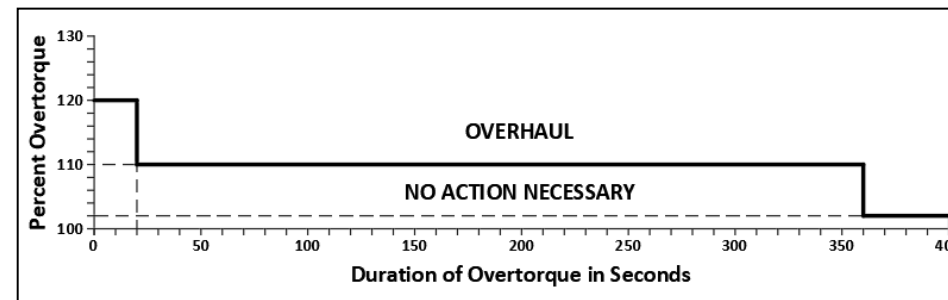

FIGURE 6-7
- (2) When a propeller installed on a turbine engine has an overtorque event, refer to figure 6-7 to determine the corrective action to be taken.
- (3) In case of overspeed and/or overtorque event resulted in inspection or overhaul is required to fill out the report below in this chapter and send it with propeller to the Avia Propeller.
- (4) For engine mounted accessories (for example, governors, pumps, and propeller control units) manufactured by Avia Propeller, any overspeed at a severity level and /or duration sufficient to require at minimum a search inspection for the propeller, will require the accessory to be disassembled and inspected in accordance with the applicable maintenance manual.
- (5) Bez ohledu na stupeň poškození musí být jakákoliv událost přetočení zaznamenána do Záznamníku vrtule.